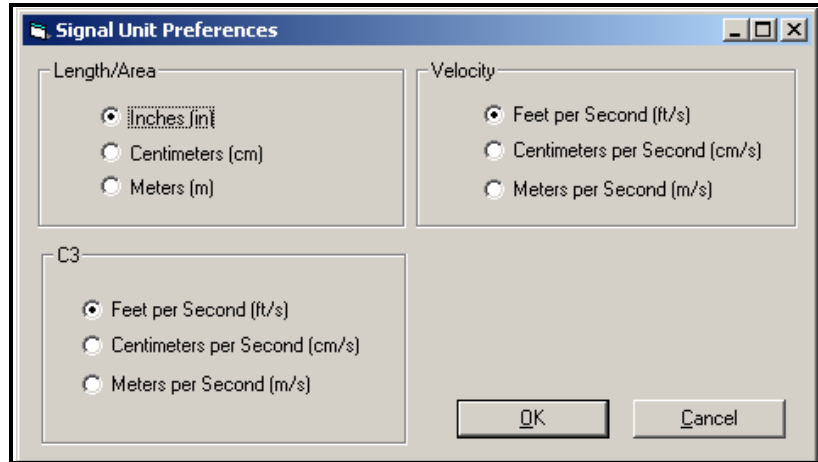

Figure 17: Signal Unit Preferences
*PanaView*TM can display and program some parameters in different units based on user preference. The Units button allows the user to switch between the different units (see Figure 17 below).